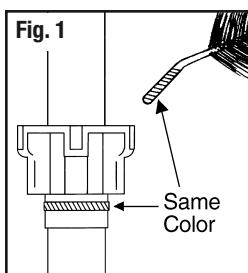
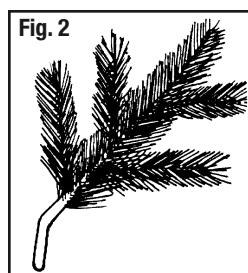

Fig. 1
Fig. 2
2. BRANCH SHAPING. (Branches should be attached to tree pole from the bottom up.) Locate the color-coded branches that match the color code of the bottom bracket on the center pole (Figure 1). Each branch must be shaped to a natural position by spreading out the left and right tips away from the center tip (Figure 2). See Shaping Instructions on page 4.
- If your tree has a metal stand, unfold it and insert the eye bolts. Remove packing material from ends of poles. Put bottom section pole into tree stand making sure it is seated properly (Figure 1). Tighten eye bolts.
If your tree has a plastic stand, slide legs upward into slots at base of bottom section (Figure 2) and tap lightly with a hammer until secure. **WARNING:** Using excessive force to assemble base may cause breakage.